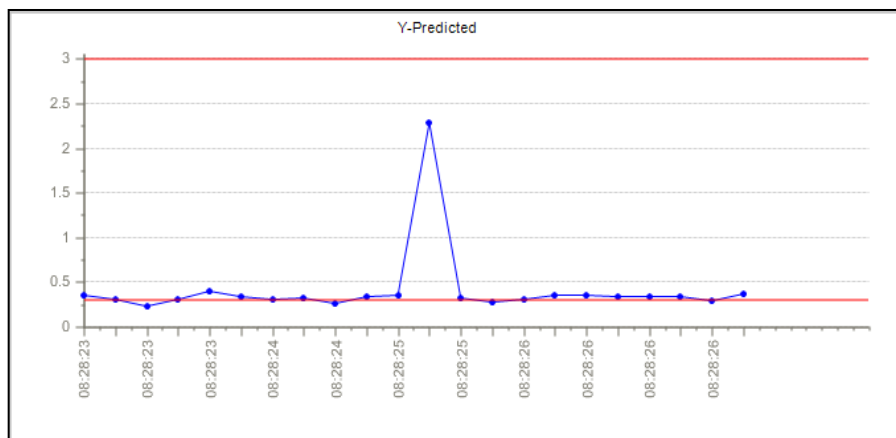

Figure 50 - Y-Predicted plot with upper and lower limits without deviations
1. *Y-Predicted plot without deviation:* This is a plot of the predicted Y values vs. sample identification (time) and is autoscaled for the Y-values. This plot shows the number of points set in the *Options* menu. Once this number of points has been exceeded, the plot scrolls by replacing the first result with the last one. See Figure 50 for an example of this plot.